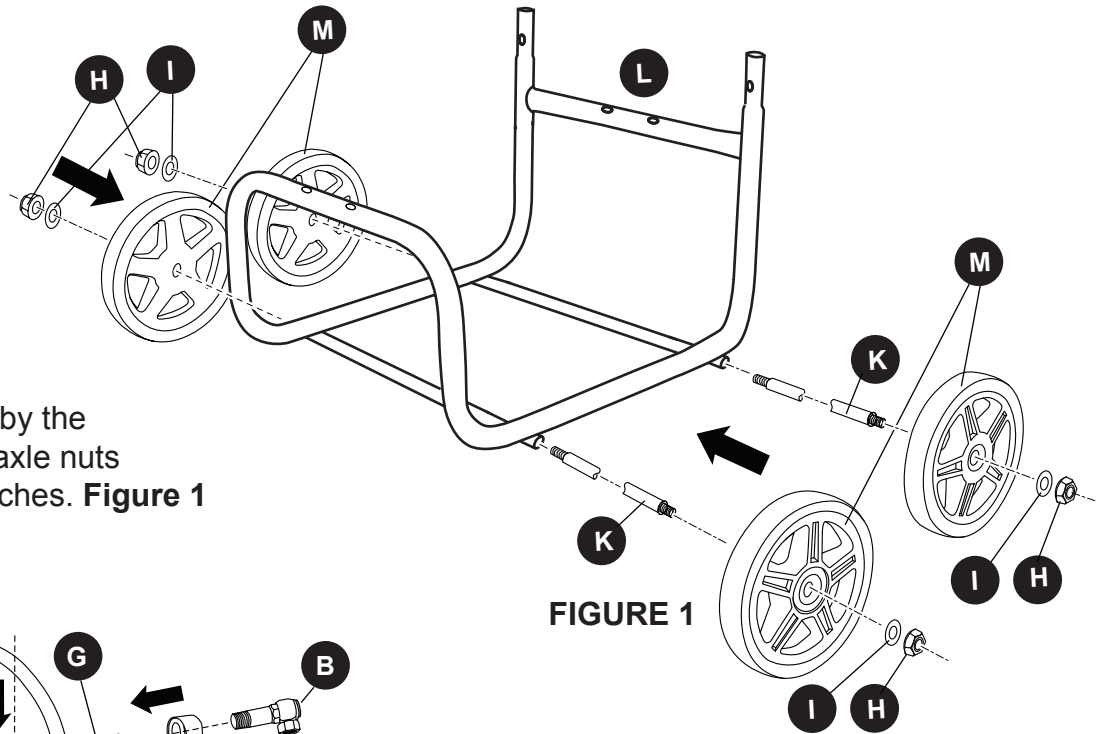

FIGURE 1
Locate the frame (L) and place it on a flat surface. Insert the wheel axles (K) through the tires (M) and into the frame, as shown. Slide the washers (I) onto the wheel axles, followed by the axle nuts (H); tighten axle nuts using adjustable wrenches. **Figure 1**